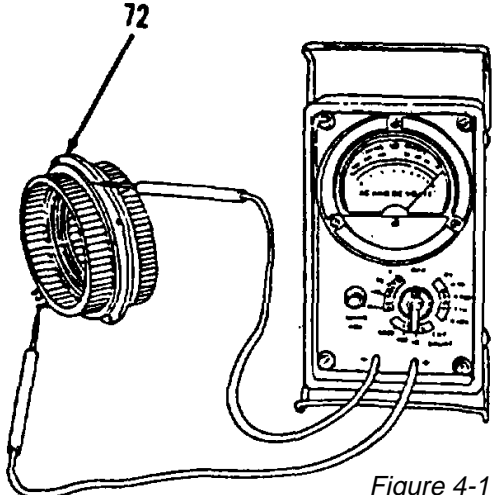
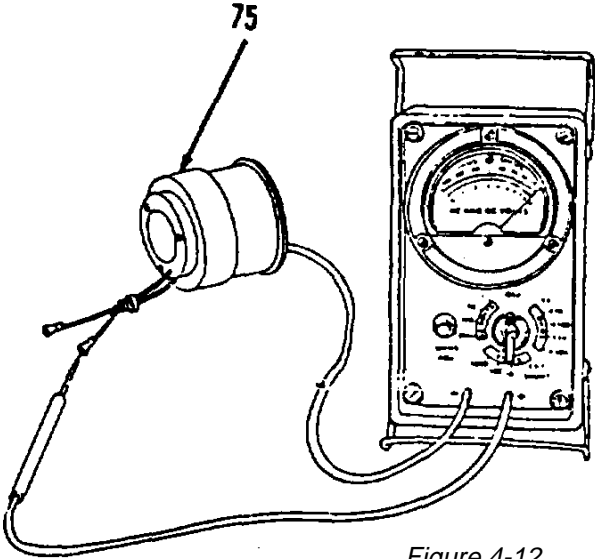

Figure 4-11.
Figure 4-12.
- 1. Using 110 volt test lamp or ohmmeter, test stator (72, Figure 4-11) for ground. Connect one test wire to stator (72) frame and the other test wire to each of three stator (72) wires. Replace stator (72) if lamp lights or meter reading is low.
- 2. Using 110 volt test lamp or ohmmeter, test stator (72) for opens. Perform at least three tests, switching test wires between any two of the stator (72) wires. Replace stator (72) if lamp does not light or meter reading is high.
- 3. Using test lamp or ohmmeter, test field coil (75, Figure 4-12) for ground. Connect one test wire to field coil (75) housing and the other to each of the field coil (75) wires. Replace field coil (75) if lamp lights or ohmmeter reading is low.
- 4. Using test lamp or ohmmeter, test field coil (75) for opens. Connect both test wires to both field coil (75) wires. Replace field coil (75) if lamp does not light or meter reading is high.